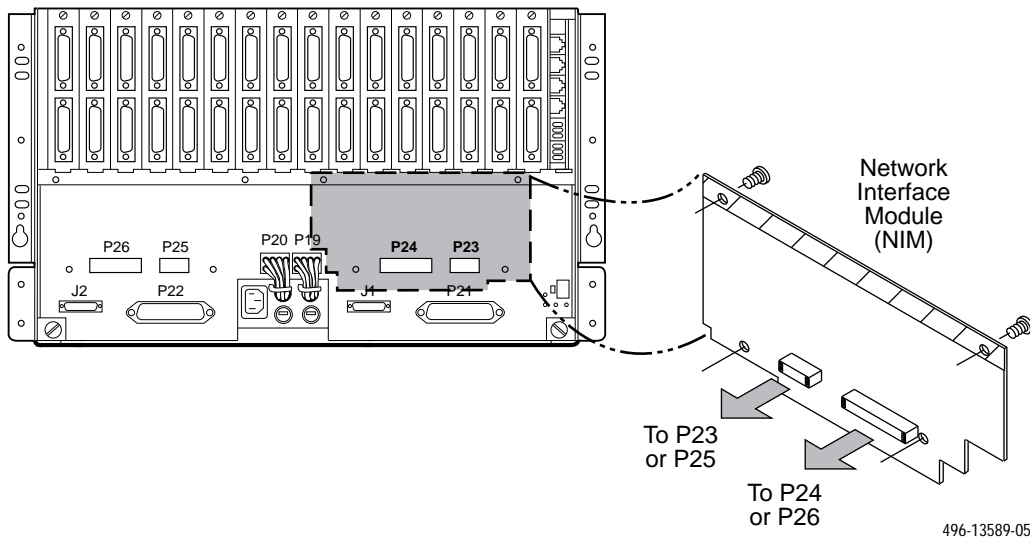

Figure 5-2. Network Interface Module Installation
2. Seat the NIM on connectors P23 and P24 on the rear of the carrier (Figure 5-2).